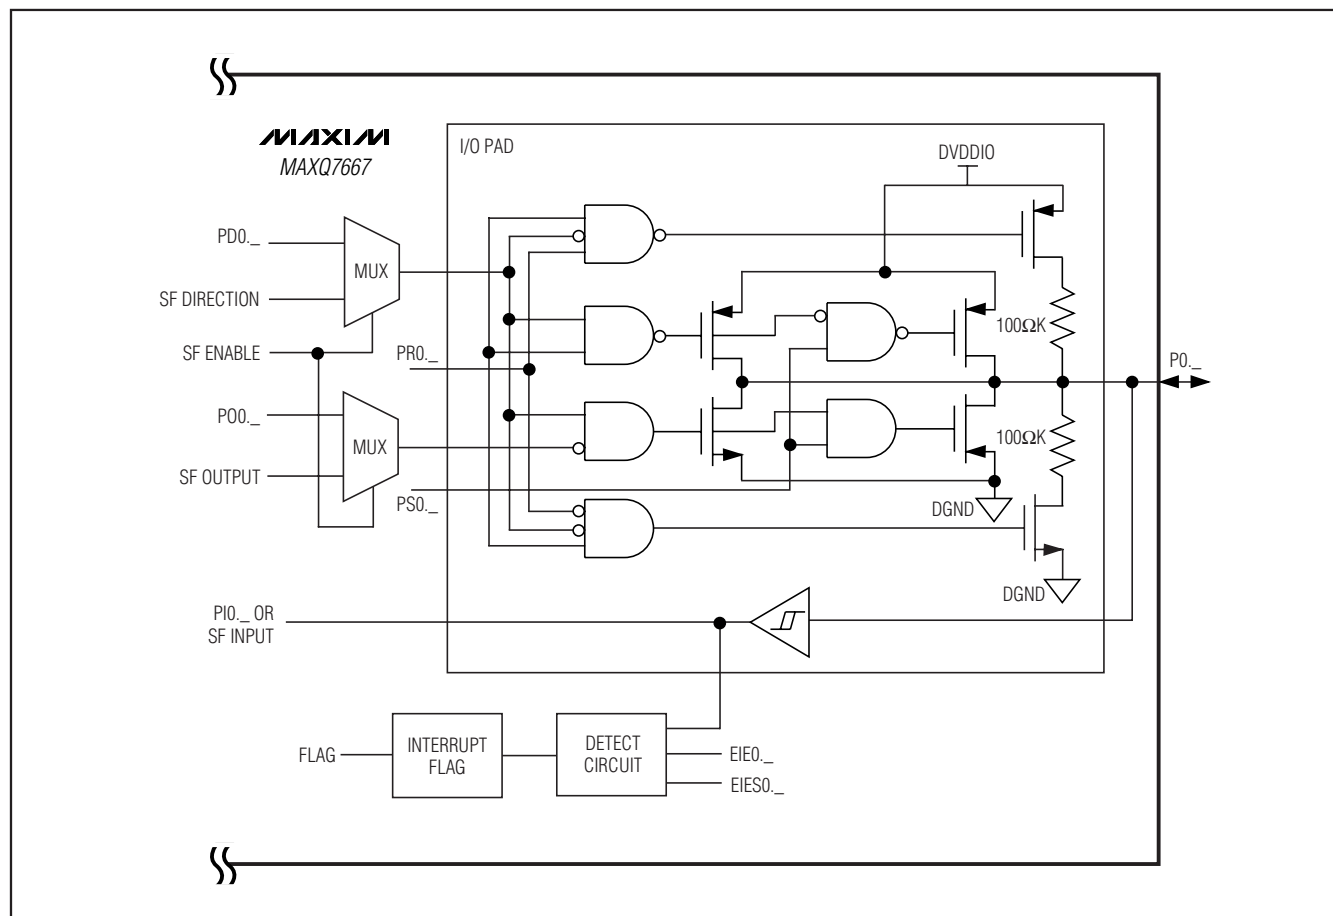

Figure 13. Port 0 Digital I/O Basic Circuitry. Port 1 Circuitry is the Same as Port 2.
Two 8-bit digital I/O ports (P0.\_ and P1.\_), with dedicated one or more alternative functions, are available as general-purpose I/Os (GPIOs) under the control of the integrated MAXQ20. Set each I/O within each port individually as an input or output. The GPIOs incorporate a Schmitt trigger receiver and a full CMOS output driver (Figure 13). Each GPIO configures as an input with pullup to DVDDIO at power-up. When programmed as an input, each I/O is configurable for high-impedance, weak pullup to DVDDIO or pulldown to DGND. When programmed as an output, writing to the port output register (PO) controls the output logic state. The outputs source or sink at least 1.6mA. Configure the drive strength for each I/O within each port to high or low using the pad drive strength register for optimum EMI performance. All the I/O ports have interrupt capability that wake up the device while in stop mode and have protection circuitry to DVDDIO and DGND.